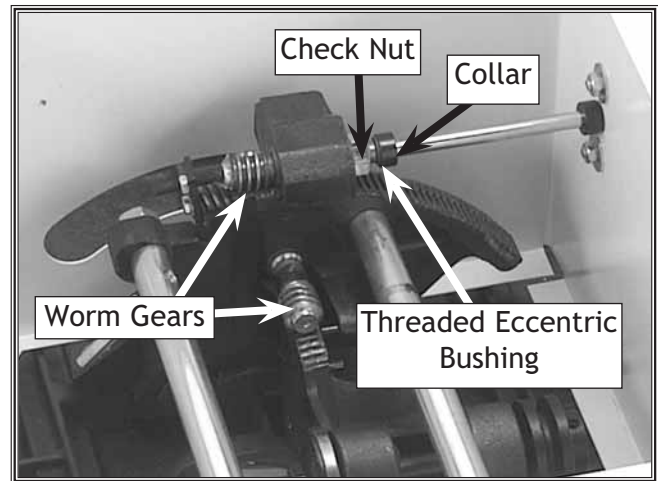

Figure 56. Blade tilt worm gear.
4. Unthread the check nut completely off of the threaded eccentric bushing (**Figure 56**).